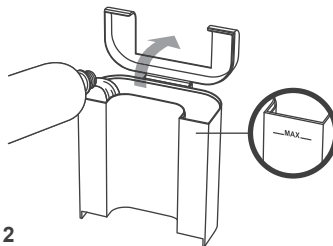

Fig. 2
3. Rinse the Water Tank with fresh water. Fill the Water Tank with bottled or filtered water but NOT beyond the MAX Fill Line. (Fig. 2)